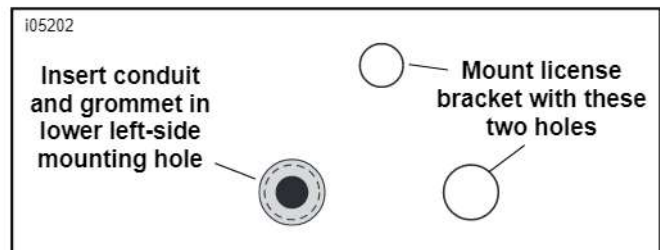

Figure 1. Grommet Location in License Plate Bracket
Peel the paper backing from the front side of the pad. Position the license-plate support onto the pad, and re-attach with the original hardware in the upper and right-side lower holes only (see Figure 1). Tighten securely.
5. Cut one 5 inch (127 mm) long piece and two 2-1/2 inch (64 mm) long pieces off the small diameter conduit (10) from the kit. Insert the long section of conduit that remains, from the back side, through the hole in the grommet (12) from the kit. Allow about one inch (25 mm) of conduit to exit the grommet from the front.
6. See Figure 1. Insert the long end of the conduit and the grommet into the lower left-side hole in the license-plate bracket, through the support and into the fender.